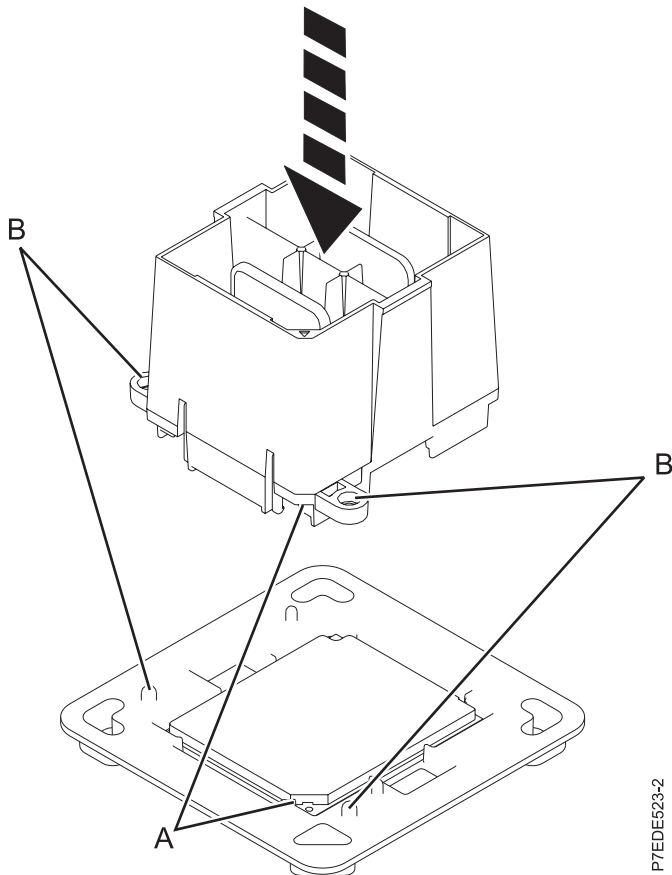
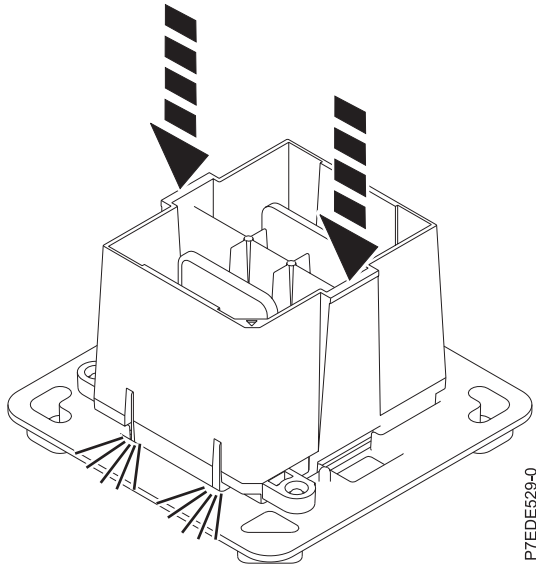

Figure 9. Preparing for system processor module installation
Figure 10. Locking the system processor module into the tool
- a. Using the removal tool, align the beveled corner (**A**) of the tool over the beveled corner of the module, as shown in Figure 9.
- b. Lower the tool over the system processor module by ensuring that the two guide pins (**B**) are inserted into the alignment holes on each side of the tool, as shown in Figure 9. Then push down on the tool to lock the system processor module into the tool, as shown in Figure 10.